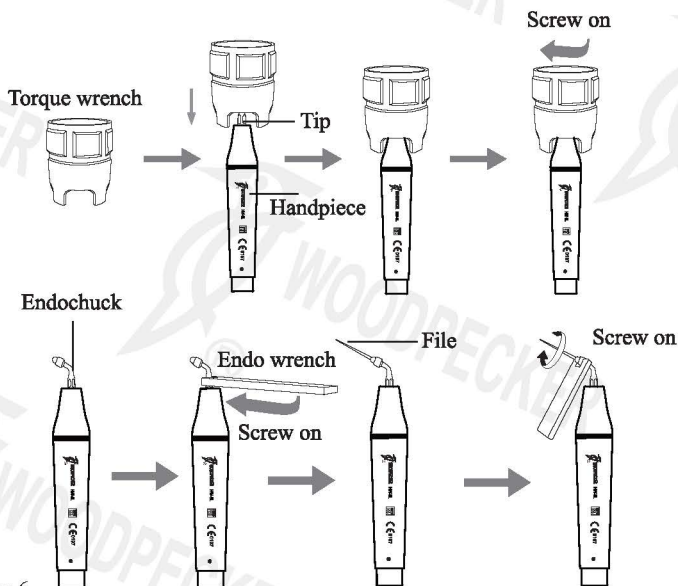

Figure 6
- i) Select a suitable scaling tip as you need, screw it on the handpiece tightly by the torque wrench (See Figure 6).
2.1.3 Instruction of torque wrench (See Figure 6)
- ① Take the scaling tip into the torque wrench, operate as showed in figure 6.
- ② Tip installation: Hold the handpiece, turn the tip toward direction as showed in figure 6 with the torque wrench. Turn one more circles when the tip stops, then the tip is installed.
- ③ Tip uninstallation: Hold the handpiece, turn the wrench toward anti-clockwise direction.
- ④ Sterilize it in sterilizer after each treatment.
- ⑤ The torque wrench must be cooled naturally after sterilization to avoid scald when using next time.
- ⑥ Keep the torque wrench in a cool, dry and ventilated place and keep it clean.
- a) Fix endochuck to handpiece by endo wrench (See Figure 6).